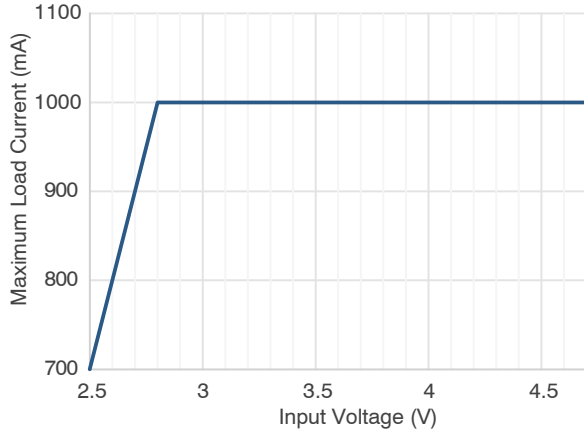

Figure 17. Load Capability vs. Input Voltage
3. Refer to Figure 17 in Application Information Section.